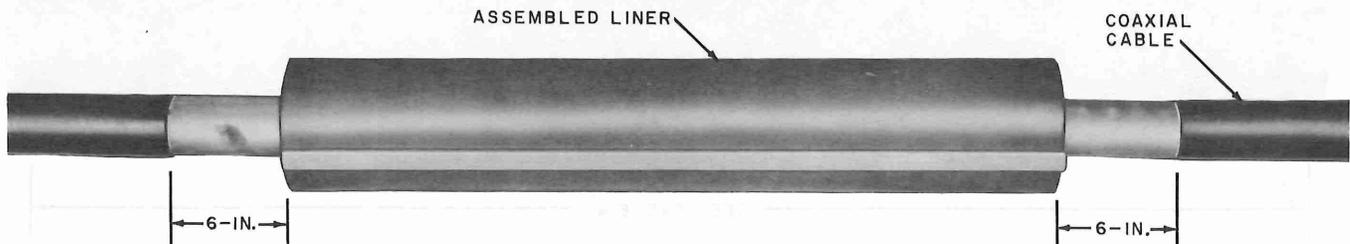

Fig. 3 — Assembled C Sleeve Liner
3.03 Place the other shell over the top of the splice, align the edges of the shell with the groove in the couplings, and tap firmly to seat the shells in the grooves (Fig. 3).
3.04 Position the assembled liner over the splice so that 6 inches of the cable lead sheath is exposed on each side of the liner (Fig. 3).